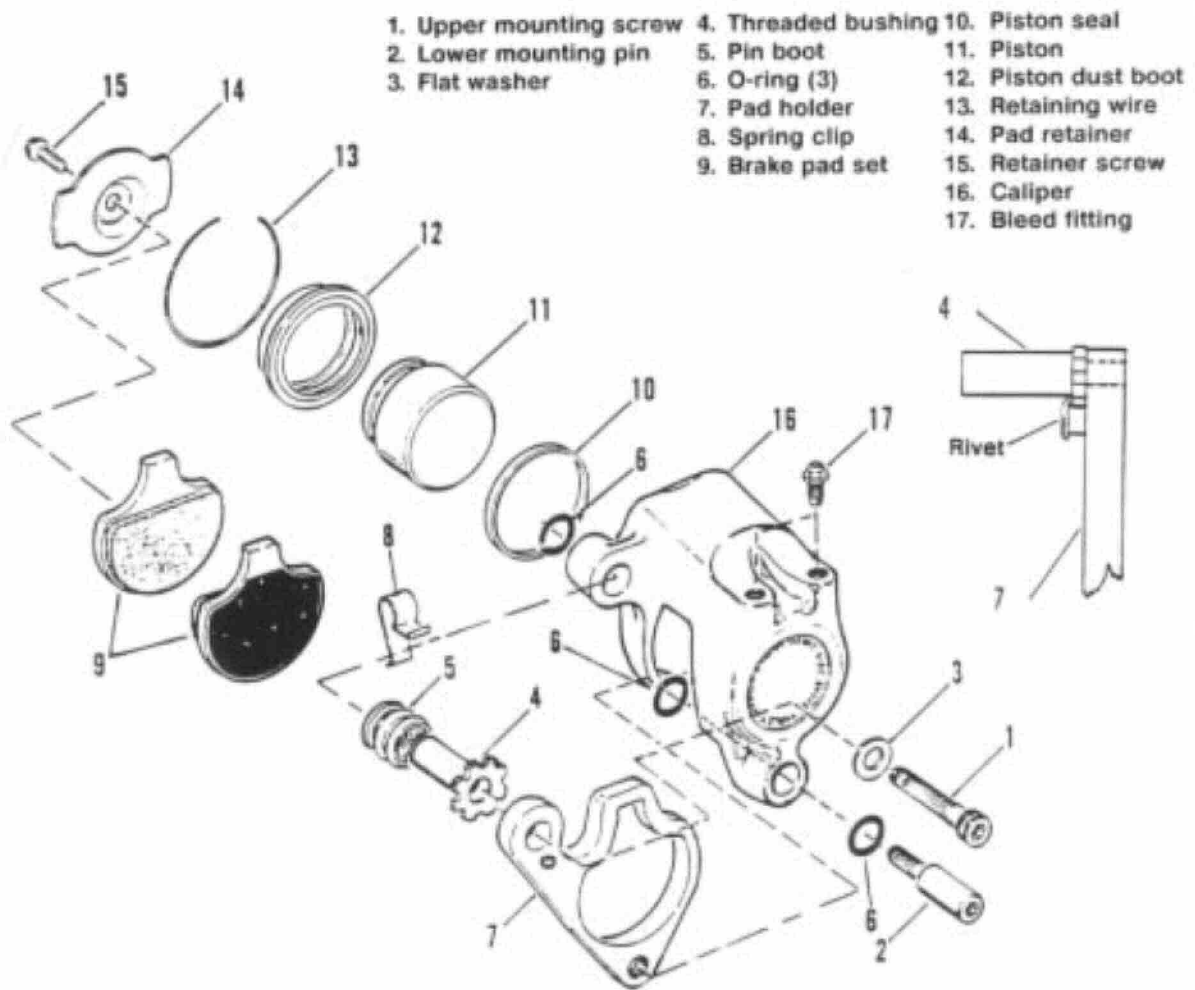

Figure 2. Front Brake Caliper
1. See Figure 2. Remove mounting fasteners (1 and 2). Apply hand pressure alternately to each side of the caliper in order to force the piston into caliper; this will ease the removal procedure.
3. Remove screw (15) and inboard pad (9).
4. Remove assembly of outboard pad (9) and pad holder (7); remove pad from holder. Note position of spring clip (8) so that you will install it in the correct position later.
5. Install new inboard pad (has hole for screw 15) in caliper and fasten with pad retainer (14) and new self-tapping screw (15).
See Figure 2, Assembled View of (4) and (7). The head of the threaded bushing (4) must be assembled beneath the rivet head on the pad holder (7). In addition, one of the U-shaped notches on the outer edge of the bushing flange must engage the rivet body. If the bushing is not positioned properly, damage to the rivet will occur when the caliper mounting fasteners are tightened.
10. See Figure 2. Insert lower mounting pin (2) through caliper and front fork lower mounting lug, and then thread pin into tapped hole at lower end of pad holder (7). Tighten pin to 25 - 30 ft-lbs torque.
12. Install upper mounting screw (1) with washer (3) through front fork upper mounting lug and pad holder (7), and then thread the screw into threaded bushing (4). Tighten screw to 25 - 30 ft-lbs torque.